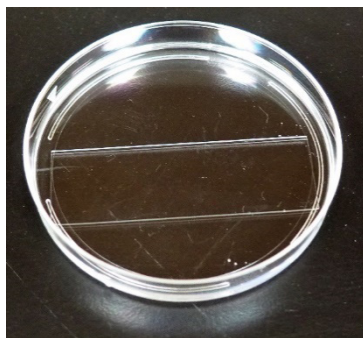

Figure 5-2: *scWest chip rehydrating in 15 mL of 1X Suspension Buffer.*
- 4 Add 15 mL of 1X Suspension Buffer into each Petri dish to cover each scWest chip (Figure 5-2). Equilibrate all chips in 1X Suspension Buffer for >10 minutes (up to a maximum of 4 hours) at room temperature before use. This can be done prior to the single-cell suspension preparation, so that the chips are rehydrated by the time the single-cell suspension is prepared.